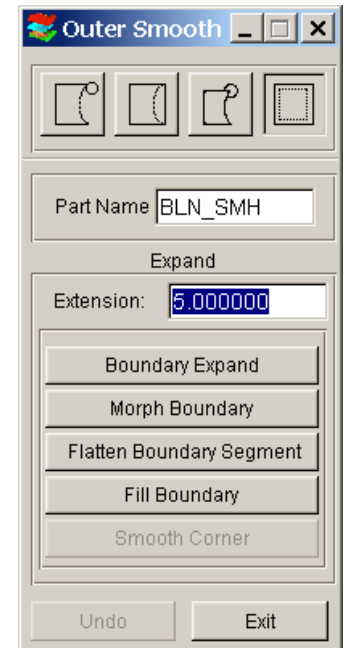

Figure 1.22
- f) Select **Expand** (See Figure 1.22)